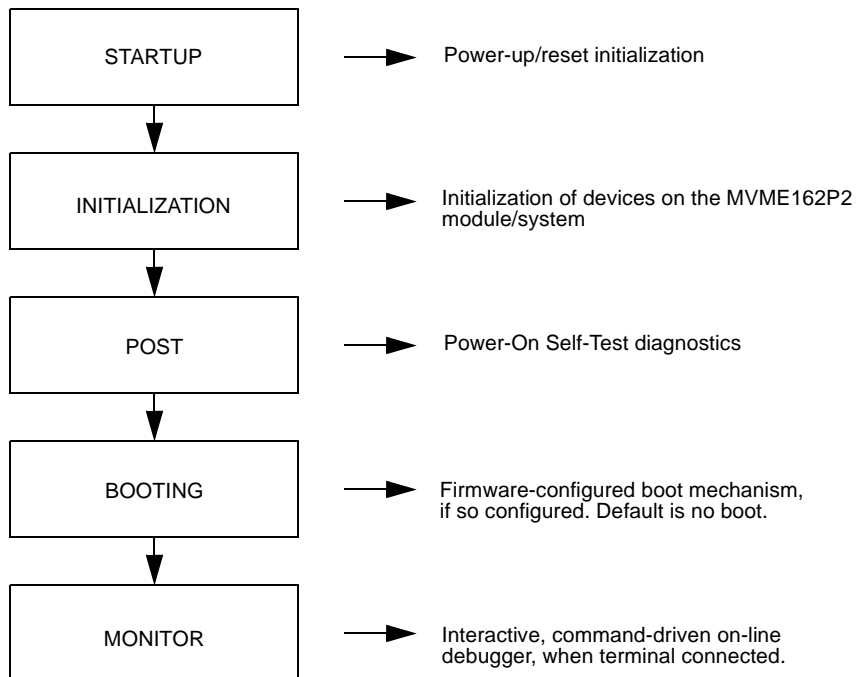

Figure 2-1. MVME162P2/Firmware System Startup
1. Each IP module has two 50-pin connectors that plug into two corresponding 50-pin connectors on the MVME162P2: J5/J6, J7/J8. See Figure 2-1 for the MVME162P2 connector locations.